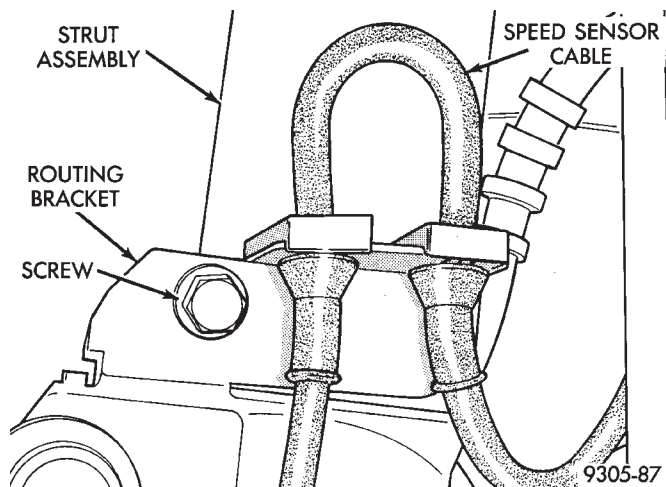

Fig. 3 Speed Sensor Cable Routing Bracket
(5) If vehicle is equipped with Anti-Lock brakes. Remove speed sensor cable routing bracket from front strut assembly (Fig. 3).
(6) Remove brake caliper assembly from steering knuckle and braking disc. Refer to the Brake Section